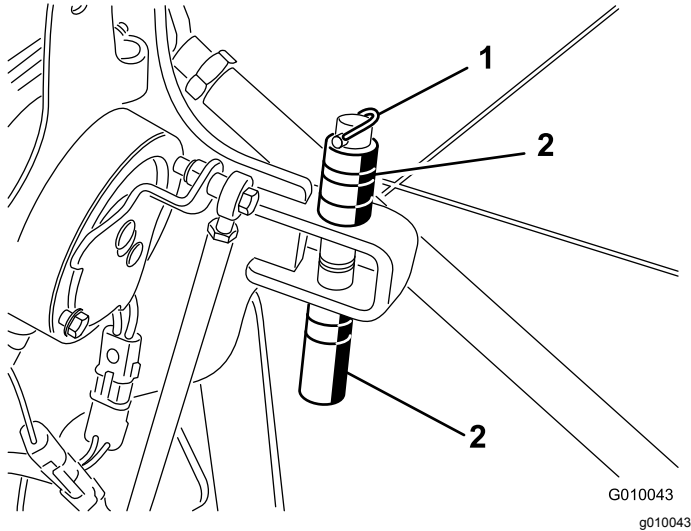

Figure 29
2. Remove the lynch pin retaining the spacers and depth pins (Figure 29).